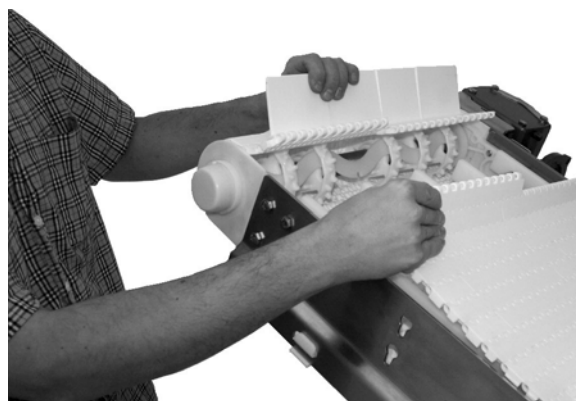

Figure 30
9. Bring the ends of the belt together (**Figure 30**).